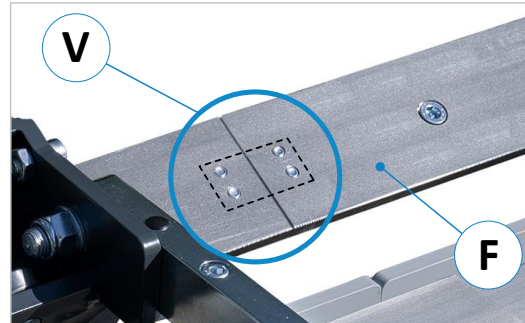

Figure 8: Flat bar for BK/F and E/KF
⇒ Figure 8: Screw the inclined mounted guide flat bars (F) of the roller conveyor tightly together with the screwed-on connecting bracket (V) from the rear side. When attaching the connecting bracket (V), make sure that the flat bars are exactly flush with each other → The air gap between the flat bars should be as small as possible.